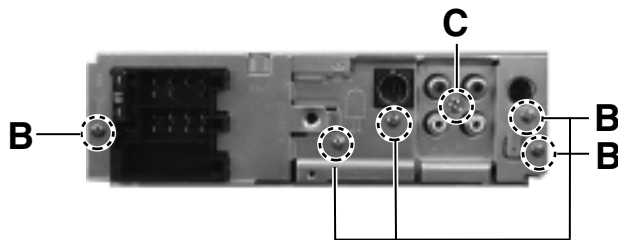

Fig. 6
■ **Removing the rear panel (See Fig.6)**